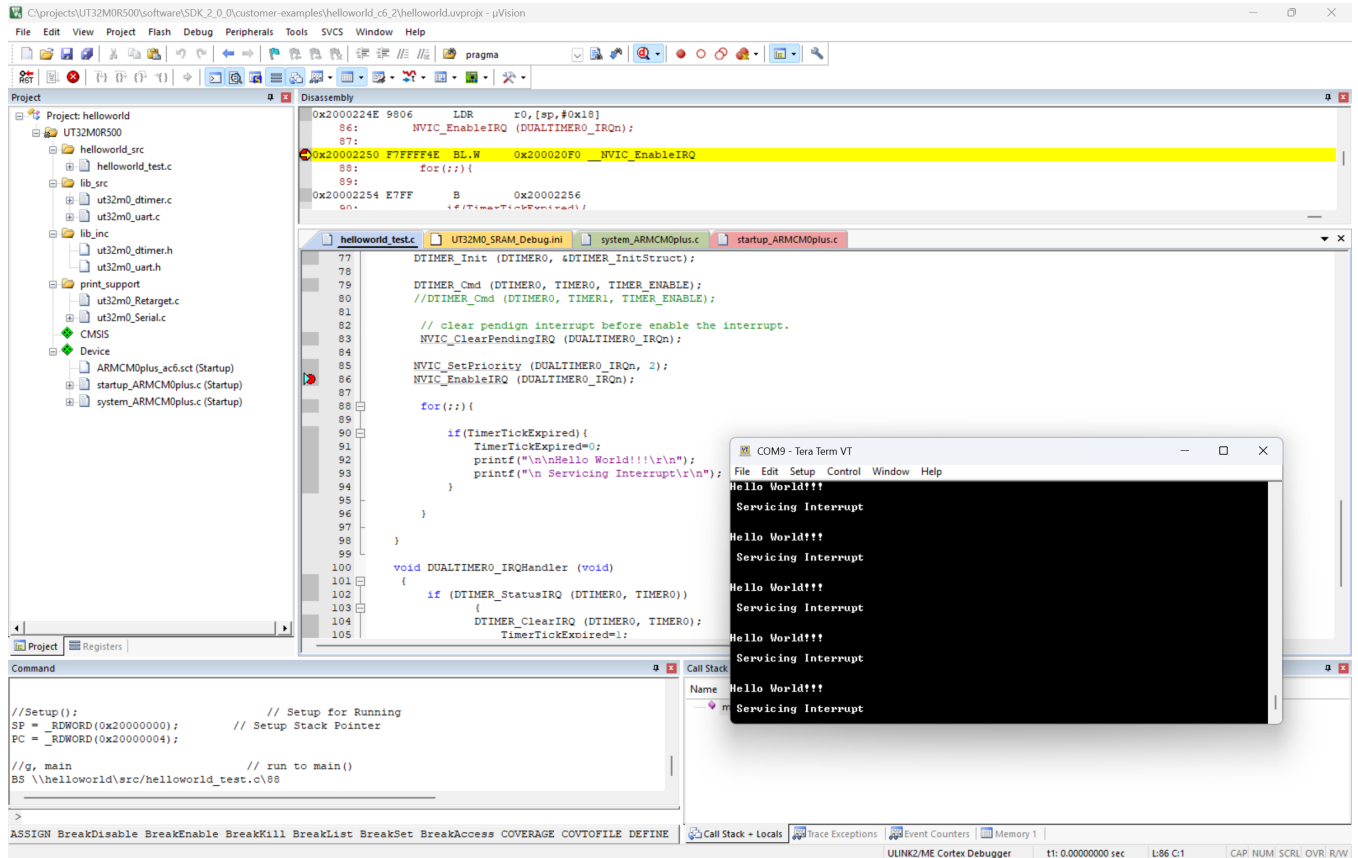

Figure 12: Hello World Display
13. Start the debugger  and run  the application. Display the output using your favorite Terminal, see Figure 12.